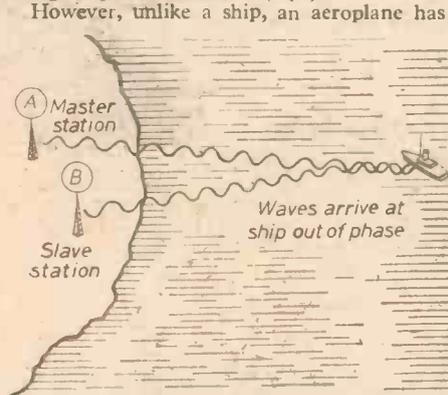

Fig. 8.—Waves from station B arrive sooner than from station A, as B is nearer. This means that the waves are out of phase.
Imagine two transmitters, as shown in Fig. 8, both working on the same frequency. If these signals are received by a ship, it will be found that the signal from station (B) arrives slightly sooner than from station (A). This means that they are slightly out of phase. This can be seen from the drawing. The Decca receiver on the ship is able to measure how much the signals are out of phase, and to indicate it on a dial. As the ship moves the amount that the signals are out of phase changes. Thus the degree that the signals are out of phase is a measure of the ship's position.